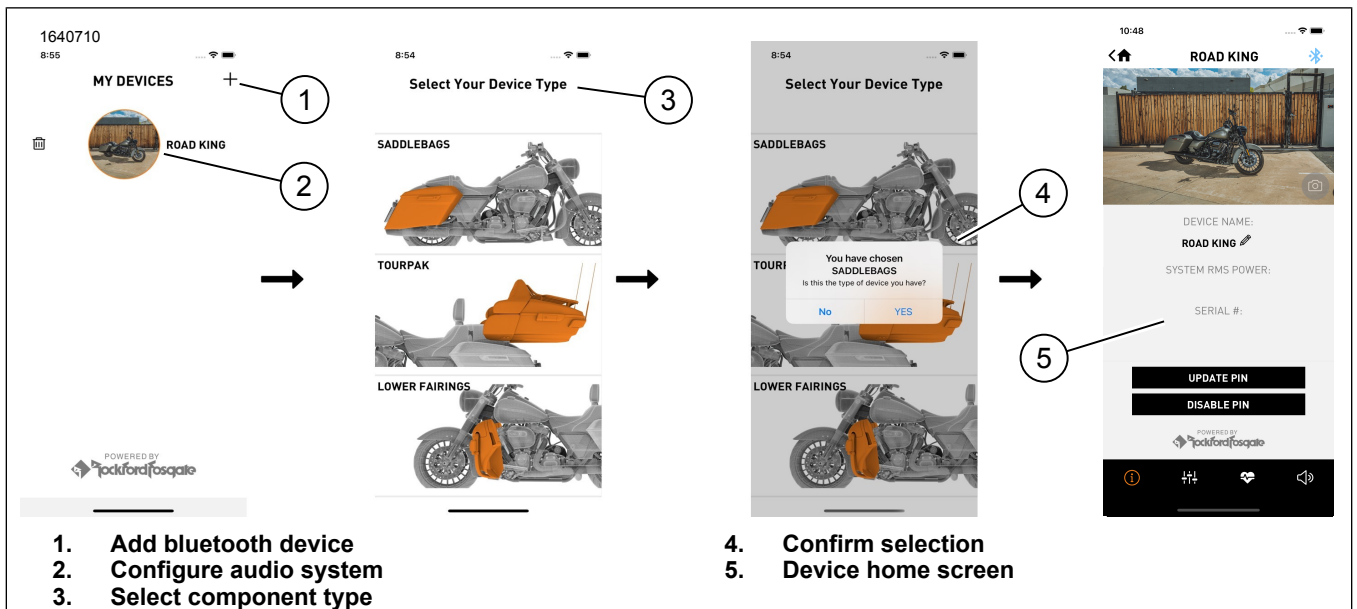
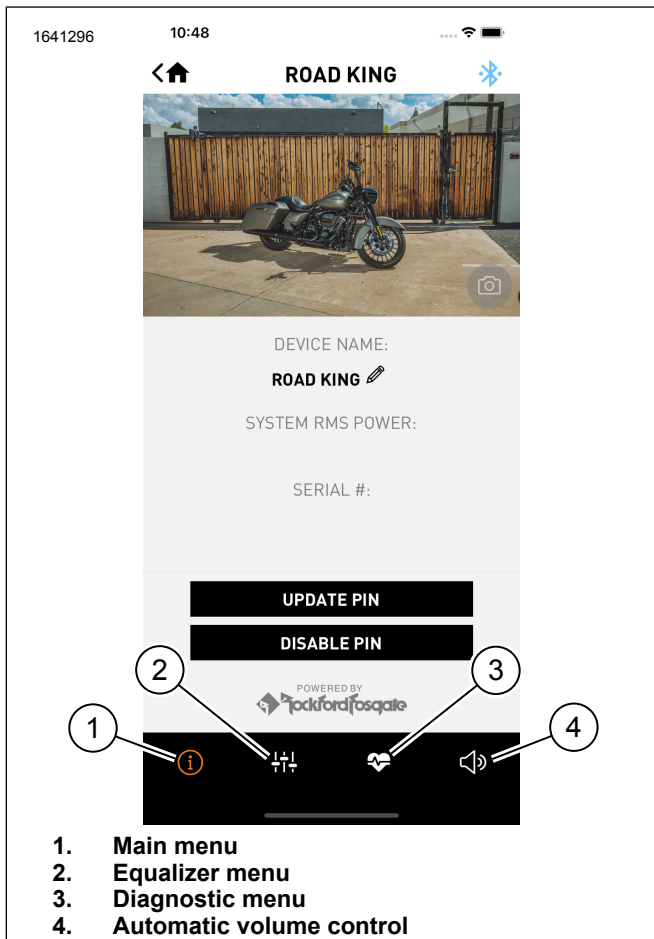
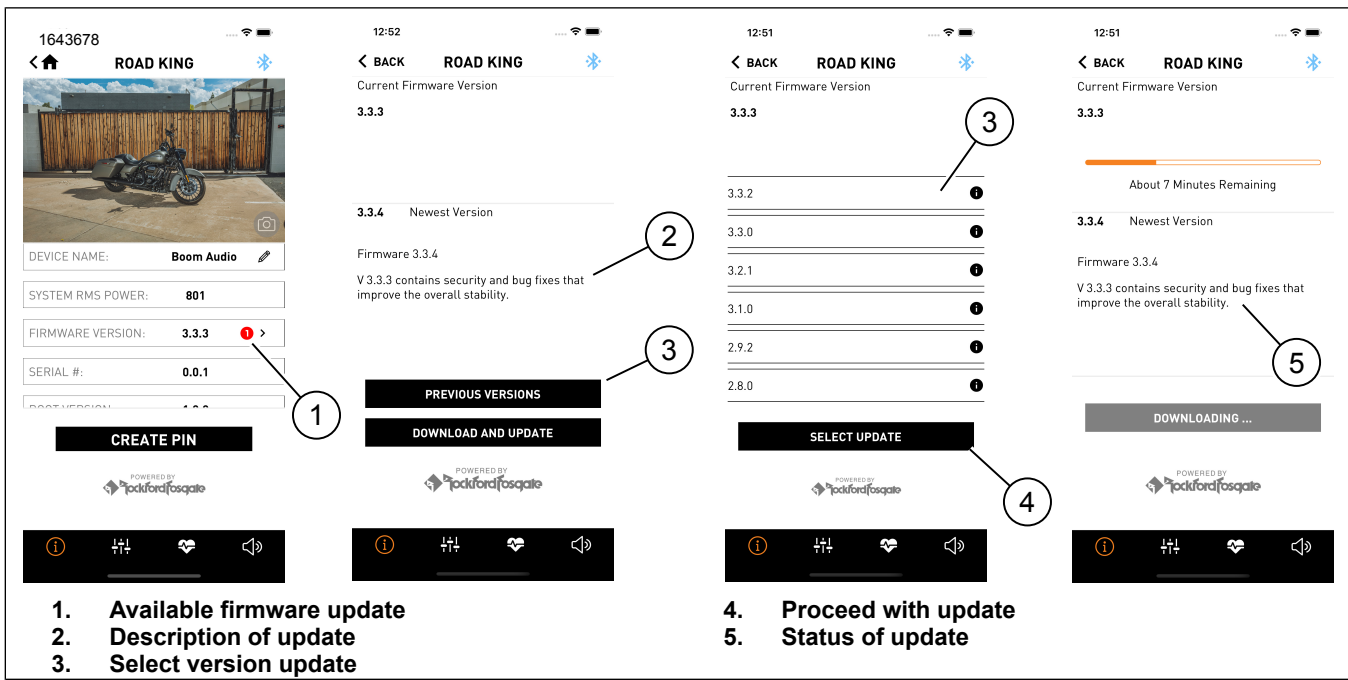

Figure 17. Setup Process
Figure 18. Menu Bar
Figure 19.
1. Figure 17 Accessing your audio system.
- a. Pair device (1) to system.
- b. Access app menus (2) to setup vehicle sound system.
2. Select configuration (3) where speakers have been installed on vehicle.
3. Confirm selection (4).
4. After setup is complete, device home screen (5) will display.
5. Figure 18 Press menu bar icons for:
- a. Main menu (1)
- b. Equalizer menu (2)
- c. Diagnostic menu (3)
1. Figure 19 Red circle indicates that there is an available firmware update (1).
2. Short description of update (2).
- b. Press previous version (3) if that version is desired.
3. Select a version update (3) and proceed with update (4).
- a. Figure 18 Pressing Main Menu (1) icon will provide more information about the update.
4. Screen shows status of update (5) being applied to amplifier.